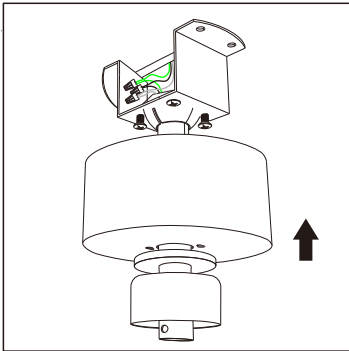

Figure 7.1
- When installing the canopy, ensure the electric wire is not pressed or pinched by the canopy. Make sure to connect all wires accordingly. (Figure 7.1)